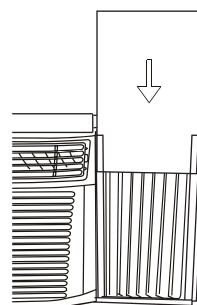

Fig.22
Step 3. Slide the R1 insulation panel into the side curtain, the side with pattern should facing the indoor (Fig. 22).